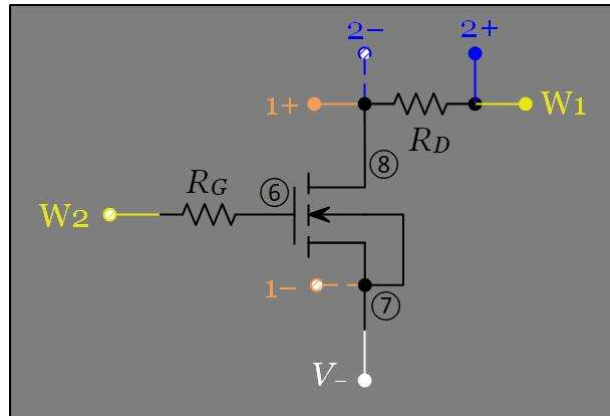

Figure 3.1. Measuring iv-characteristics of a MOSFET.
1. Build the circuit in Figure 3.1. Use  $R_G = 100k\Omega$  and  $R_D = 100\Omega$ . Use the CD4007 for your MOSFET. The CD4007 is a 14-pin chip that contains six different MOSFETs (3 nMOS and 3 pMOS). Search online for the datasheet for the CD4007 to identify the pins on the package. The circled numbers on Figure 3.1 correspond to using the Q1(N).